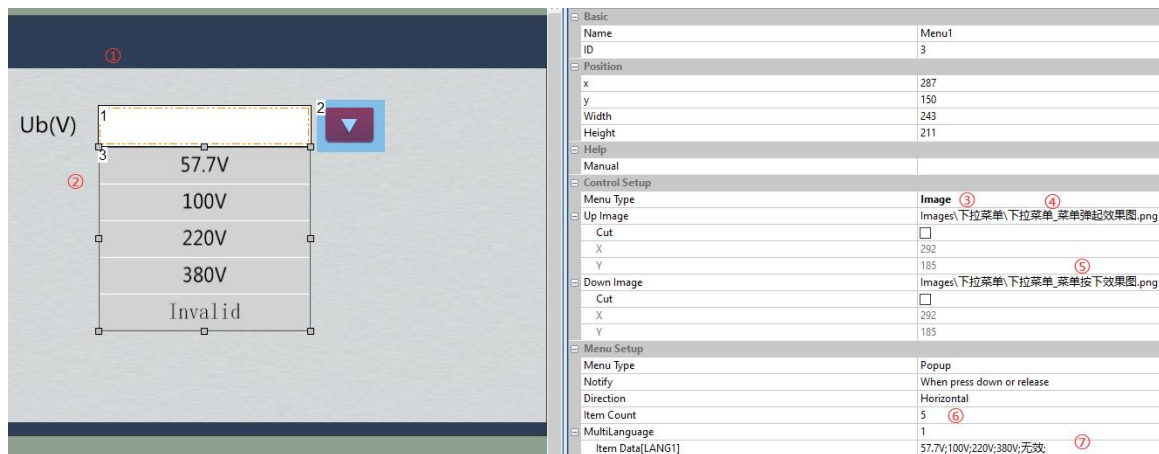

Figure 2-27 Setting the drop-down menu properties
Set the drop-down menu properties. As shown in Figure 2-27, click the drop-down menu control at (1), drag and drop it at (2) position in the figure, and at the property window (3) on the right, set the menu appearance to: Customize Picture, and then (4) respectively, (5) set the menu picture to bounce up and press, and set the menu number (6) to 5, indicating that there are 5 drop-down items, and finally in (7). Fill in all drop-down data for. The data is separated from the data previously used separately and must be a semicolon in half an angle.
Set the button of the pop-up menu and the text control to be written. As shown in Figure 2-27, place a text control at (1) with the control ID of 2, then place a button control at (2), set the touch purpose as pop-up menu, as shown in (3), and finally fill in the menu control ID and text control ID values at (4) and (5) respectively.